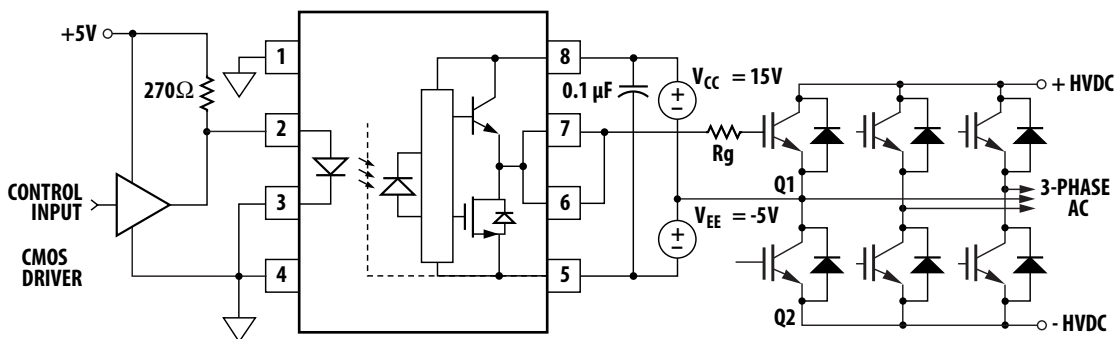

Figure 26. ACPL-312T typical application circuit with negative IGBT gate drive.
**Step 1:** Calculate  $R_g$  Minimum from the  $I_{OL}$  Peak Specification. The IGBT and  $R_g$  in Figure 26 can be analyzed as a simple RC circuit with a voltage supplied by the HCPL-3120.
For the circuit in Figure 26 with  $I_F$  (worst case) = 16 mA,  $R_G$  = 8  $\Omega$ , Max Duty Cycle = 80%,  $Q_G$  = 500 nC,  $f$  = 20 kHz and  $T_A$  max = 85°C: